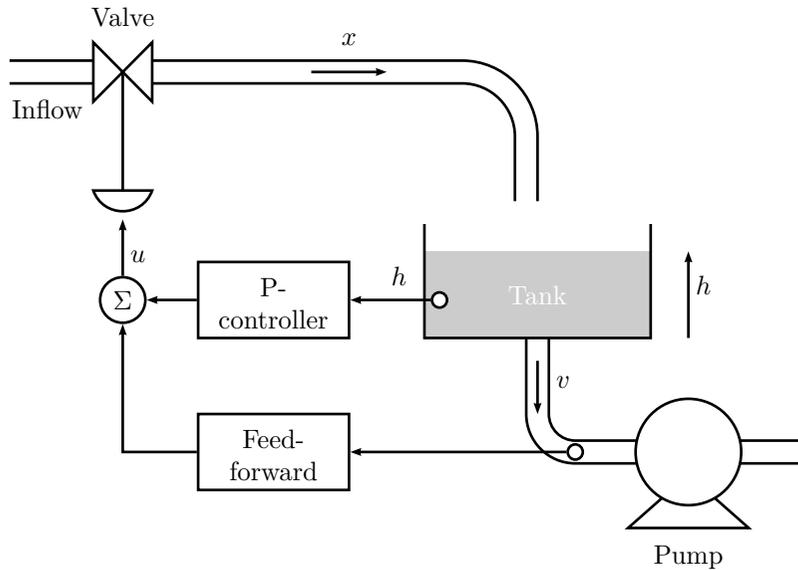

Figure 7.2a
7.2 A level control system for a water tank is shown in Figure 7.2a, where all variables denote offsets from an operation point. The inflow,  $x(t)$ , to the tank (with area  $A$ ) is determined by the valve, and the outflow,  $v(t)$ , is determined by the pump. Stu Dent has got the assignment to keep the water level in the tank constant, in spite of variations in the outflow  $v(t)$ . First, Stu determines the transfer function  $G_v(s)$  from the valve to  $x(t)$ . By step response experiments, he obtains the following result: